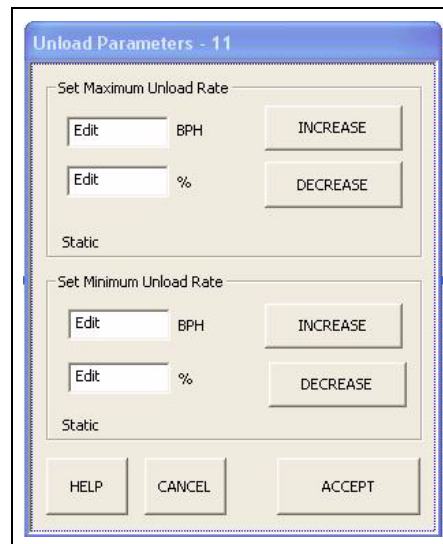

Figure 5P
- Set Minimum Unload Rate:** The meter roll speed setpoint cannot be set lower than this value. (See Figure 5P.)